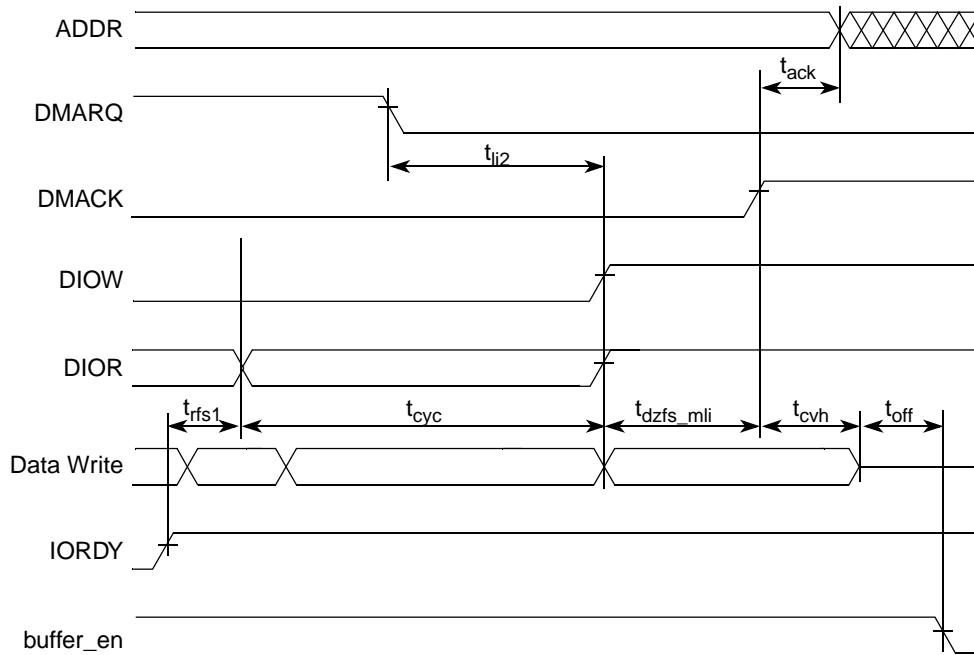

Figure 35. UDMA Out Device Terminates Transfer
- Figure 35 gives timing for device terminating UDMA out transfer